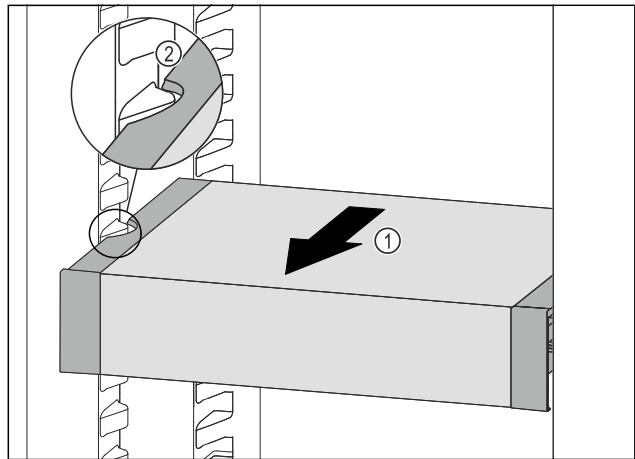

Fig. 110
- ▶ Pull VarioSafe forwards *Fig. 110 (1)* until the recesses in the side of the VarioSafe are at the level of the support rib in the fridge section. *Fig. 110 (2)*